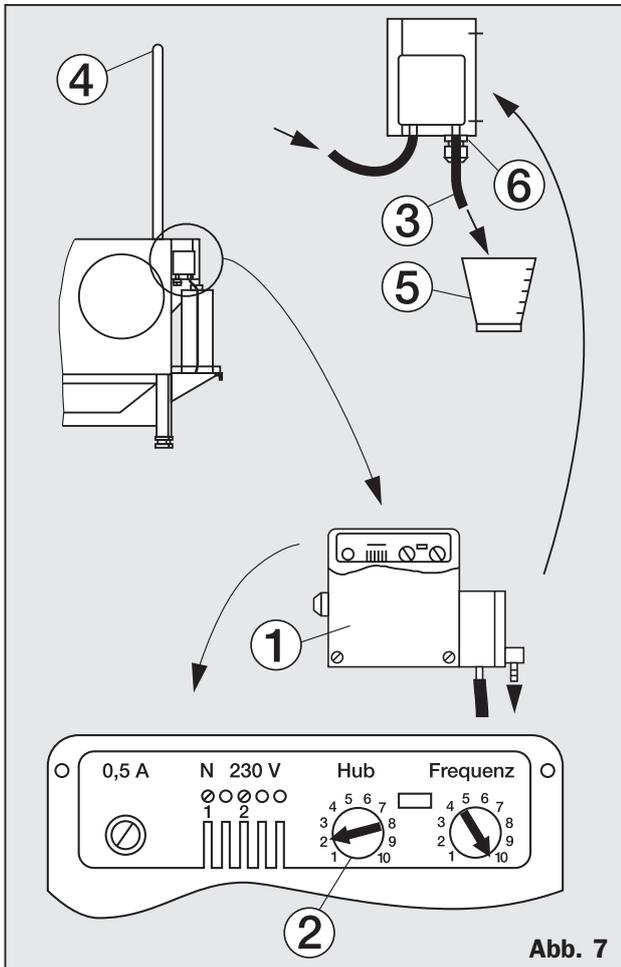

Abb. 7
- (refer to Fig. 7)
- Loosen cover screws and take off cover (1) of metering pump.
- Turn the "stroke" regulation wheel (2) in the clockwise direction using a screwdriver.
- Remove pressure hose (3).
- Press safety pushbutton (4) and hold measuring beaker (5) underneath the pressure connection nozzle (6) of the metering pump.
- Carry out adjustments on "stroke" regulating wheel (2) in accordance with results of measurement